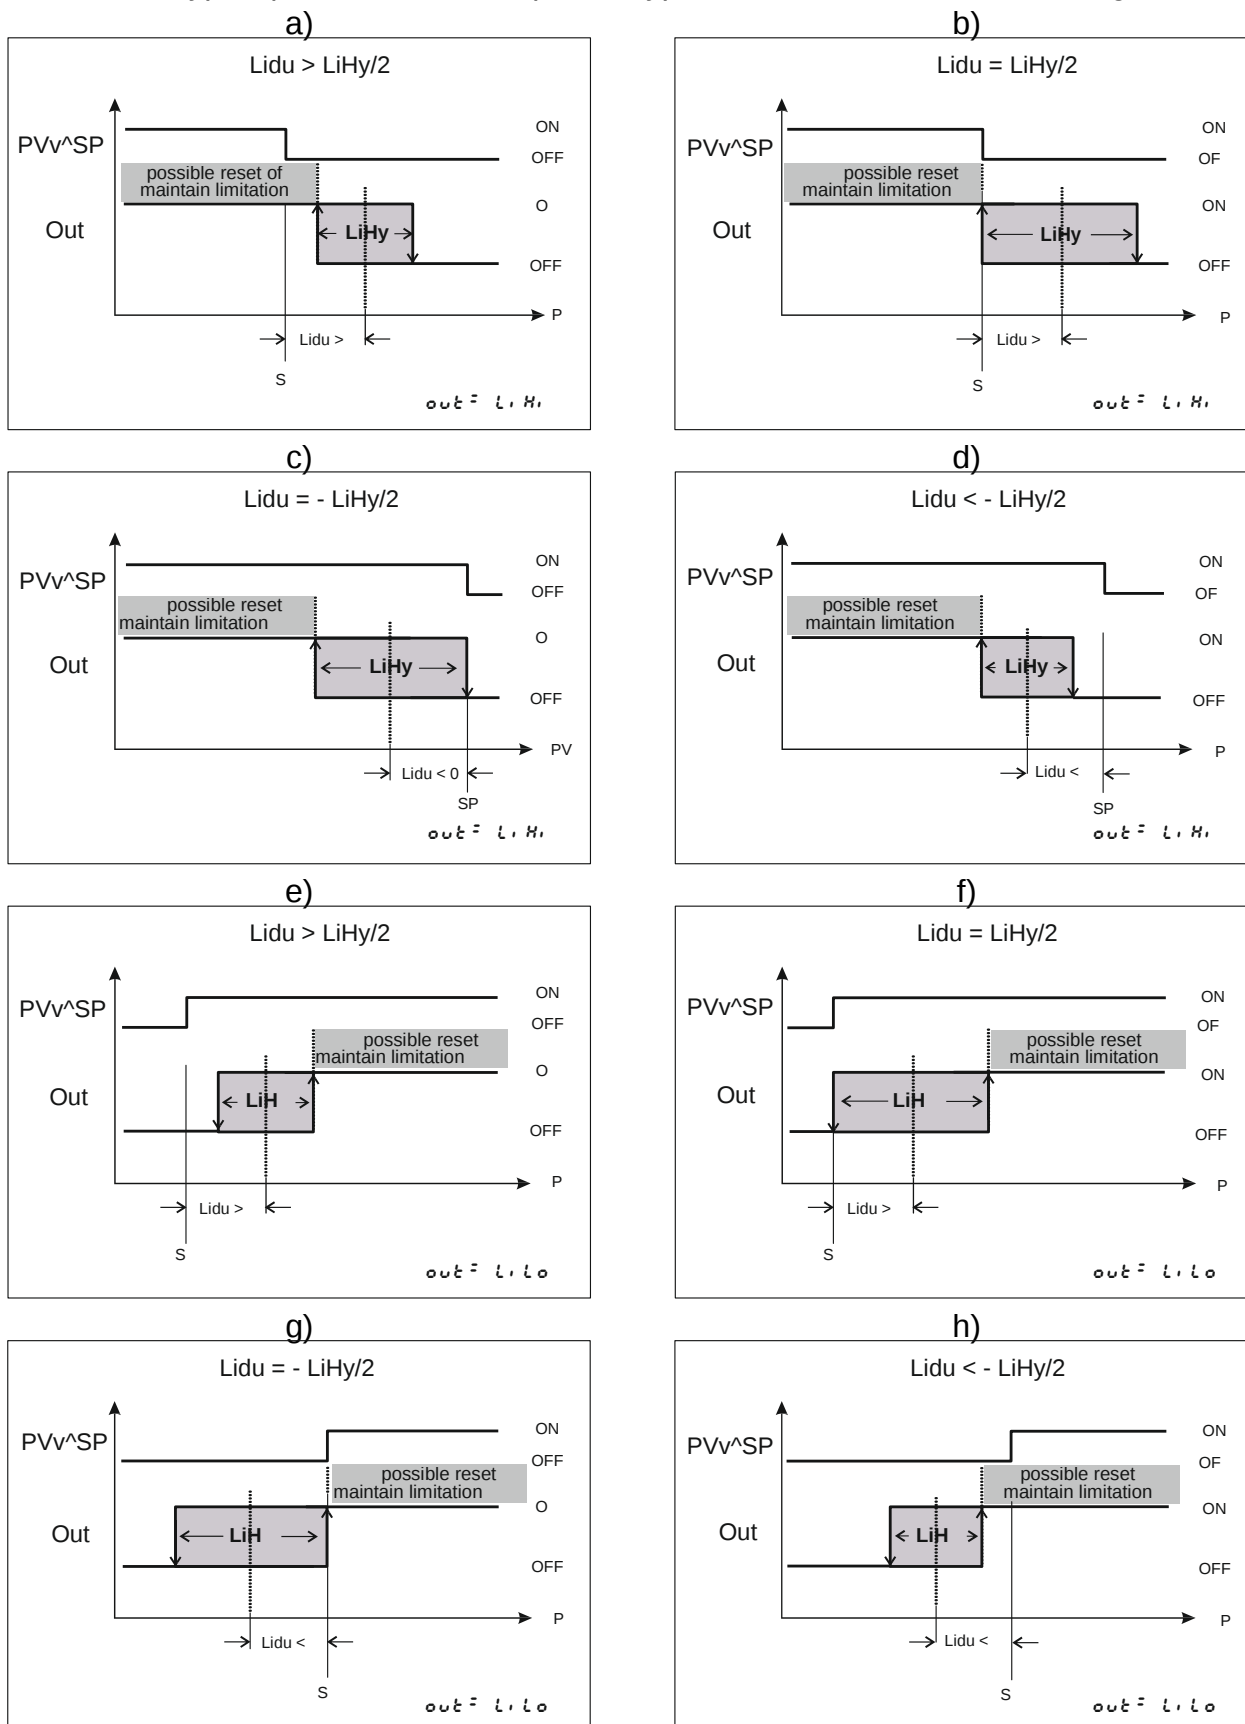

Fig.13 Working modes of the limiter output
- temperature limiter conditions are met, i.e. the temperature limit is exceeded (see fig. 13) OR
- temperature limiter conditions have ceased to exist, i.e. the temperature limit is not exceeded (see fig. 13) AND
To configure the output of the limiter, set the **out** parameter to one of the available limitation types (**L.H.** or **L.Lo**). Both types of limitation are shown in Figure 13.
You can set limitation status lock, that is saving the output status (disable- OFF) and OUT indicators status (enabled) and FAULT (enabled) when limiting conditions are no longer present (parameter **L.Lt=on**). Reset of limitation maintaining can be done by simultaneously pressing buttons  and  for about 2 seconds in normal operation. Reset of limitation maintaining is only possible after the limitation conditions are no longer present, see Fig. 13. The **FAULT** indicator turns off, **OUT** indicator turns on and the output is enabled (ON status at the output).